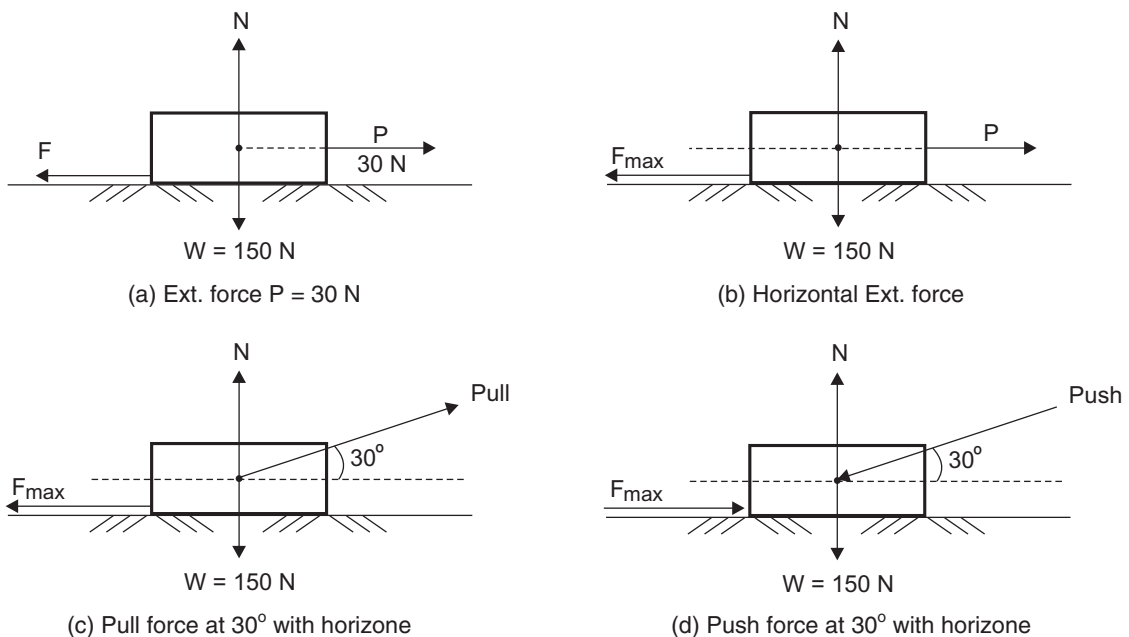

Fig. 3.7
- (a) $W = 150$ N, $\mu = 0.25$ & $P = 30$ N. [fig. 3.7(a)]
- (b) $W = 150 \text{ N}$, $\mu = 0.25$ [Fig. 3.7(b)]
- (c) $W = 150 \text{ N}$, $\mu = 0.25$ [fig. 3.7(c)]
- (d) $W = 150 \text{ N}$, $\mu = 0.25$ [Fig. 3.7(d)]
- Here it should be clear that Push type of externally applied force (P) is apply on the body. Hence force of friction (F_{\max}) will be in opposite direction to that of probable motion or applied external force.